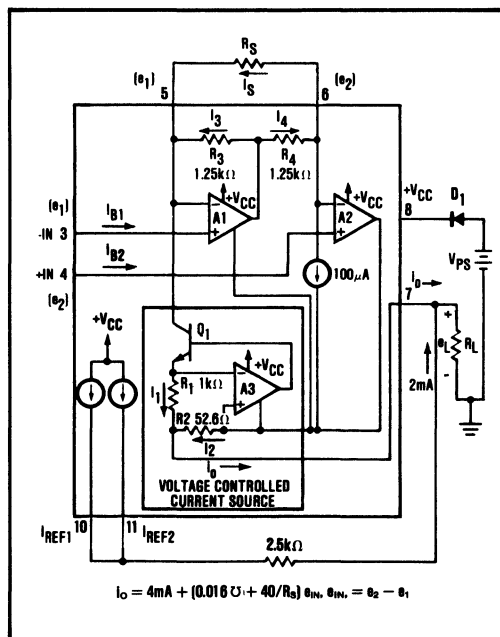

FIGURE 1. Simplified Schematic of the XTR100.
A simplified schematic of the XTR100 is shown in Figure 1. Basically the amplifiers, A₁ and A₂, act as an instrumentation amplifier controlling a current source, A₃ and Q₁. Operation is determined by an internal feedback loop. e₁ applied to pin 3 will also appear at pin 5 and similarly e₂ will appear at pin 6. Therefore the current in R_S, the span setting resistor, will be I_S = (e₂ - e₁)/R_S = e_{IN}/R_S. This current combines with the current, I₃, to form I₁. The circuit is configured such that I₂ is 19 times I₁. From this point the derivation of the transfer function is straightforward but lengthy. The result is shown in Figure 1.
7. It is recommended that a reverse polarity protection diode (D_1 in Figure 1) be used. This will prevent damage to the XTR100 caused by momentary (e.g., transient) or long term application of the wrong polarity of voltage between pins 7 and 8.